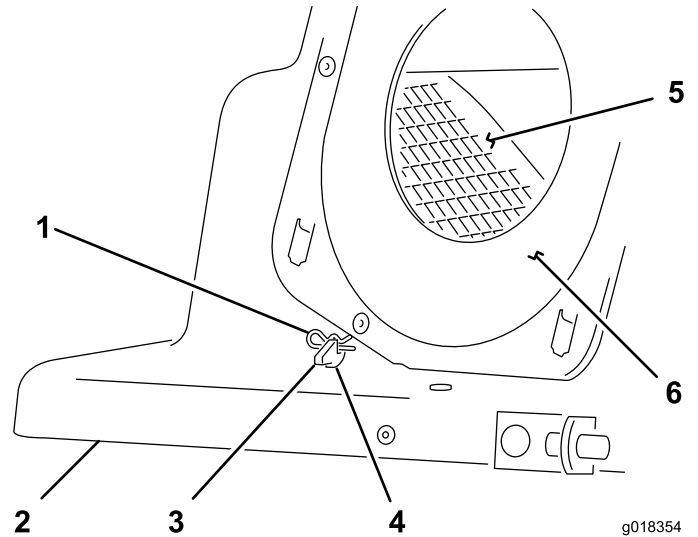

Figure 9
6. Secure the baffle to the hood by inserting the hairpins into the holes in the baffle-mounting tabs as shown in Figure 9.